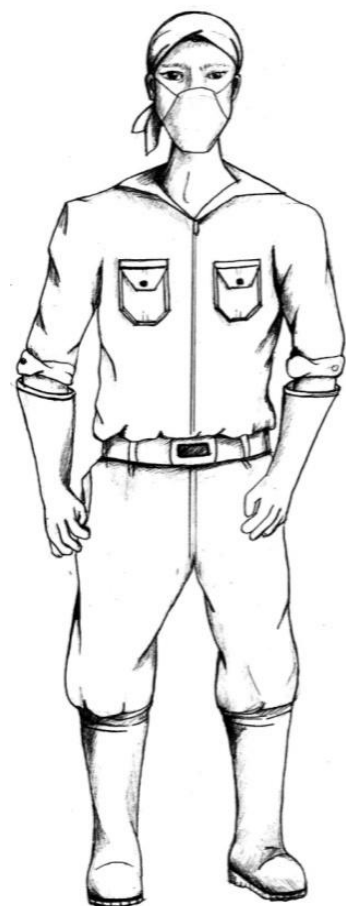

Figure 1-4: Suitable protective wear for a waste sorter.
- Provide personal protective equipment (PPE) to all staff. This is shown in Figure 1-4 and listed in Figure 1-5.